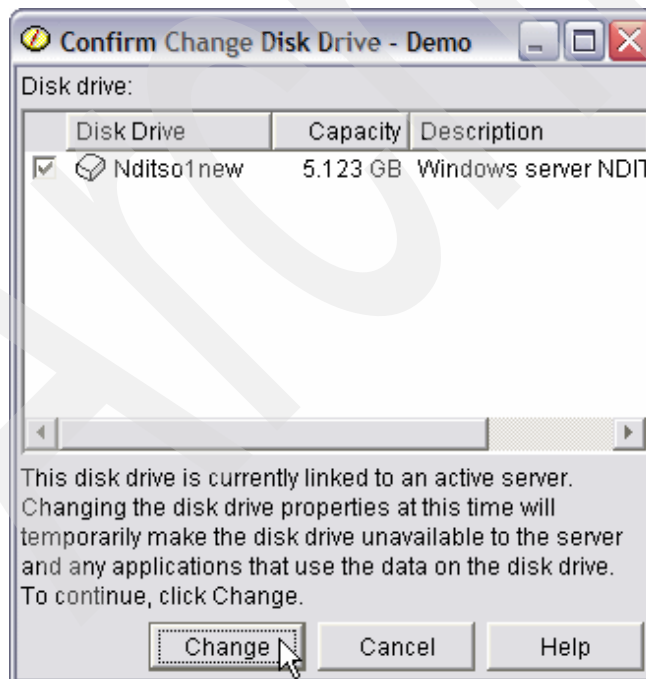

Figure 6-95 Confirm Change Disk Drive window
9. A Confirm Change Disk Drive window opens (Figure 6-95): it reads that the drive is linked and it will be temporarily not be available, because it unlinks, expands with the capacity, and links it again. Select **Change**.